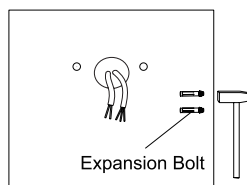

Figure 15
Step 2: Knock the expansion included bolts into the wall. (Fig. 15)